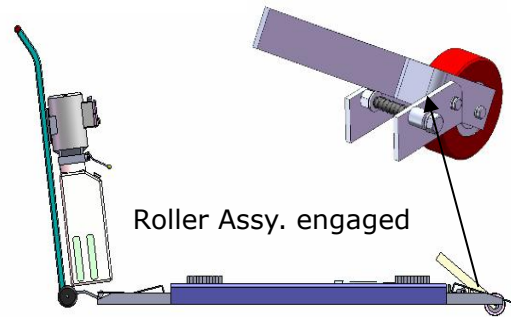

**Fig.14**
3. To lower lift: Press the button UP, until the safety lock is in the released position (**See Fig.14**), lower lift by pushing lowering handle.